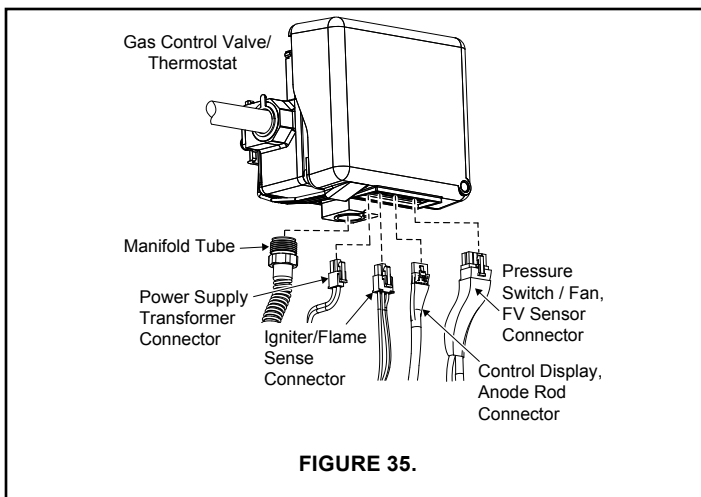

FIGURE 35.
4. Disconnect all wiring connectors from the gas control valve/thermostat (Figure 35). Disconnect the manifold tube at the gas control valve/thermostat.
7. Reconnect the flame sense/hot surface igniter wire to the gas control valve/thermostat (Figure 35).
5. Disconnect the the flame sense/hot surface igniter wire, power supply transformer, pressure switch/fan and display connector wires from the thermostat (Figure 35). Disconnect the manifold tube at the thermostat (Figure 35).
3. Reconnect the manifold tube, flame sense/hot surface igniter wire, power supply transformer, pressure switch/fan and display connector wires (Figure 35).